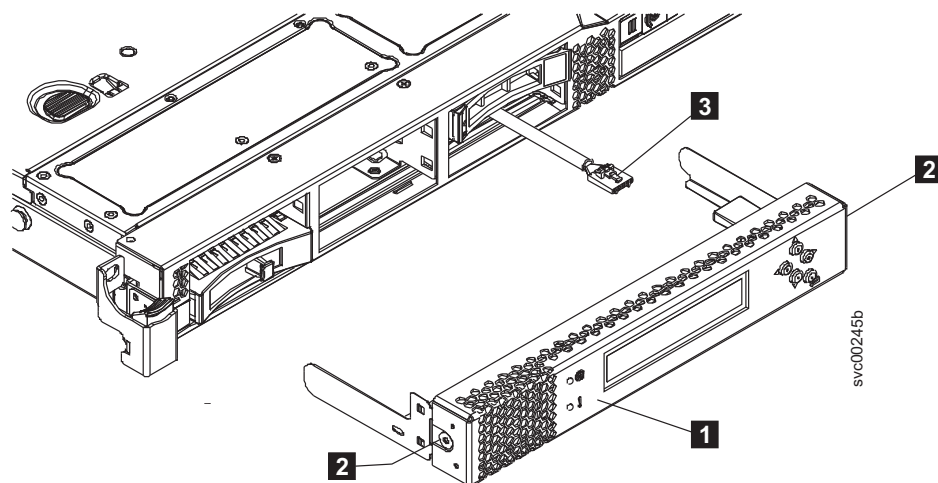

Figure 103. SAN Volume Controller 2145-CG8 or 2145-CF8 service controller (SAN Volume Controller 2145-CF8 shown)
1. When the service controller, as shown by **1** in Figure 103, is close enough to the USB cable (**3**), attach the cable to the service controller, if necessary.